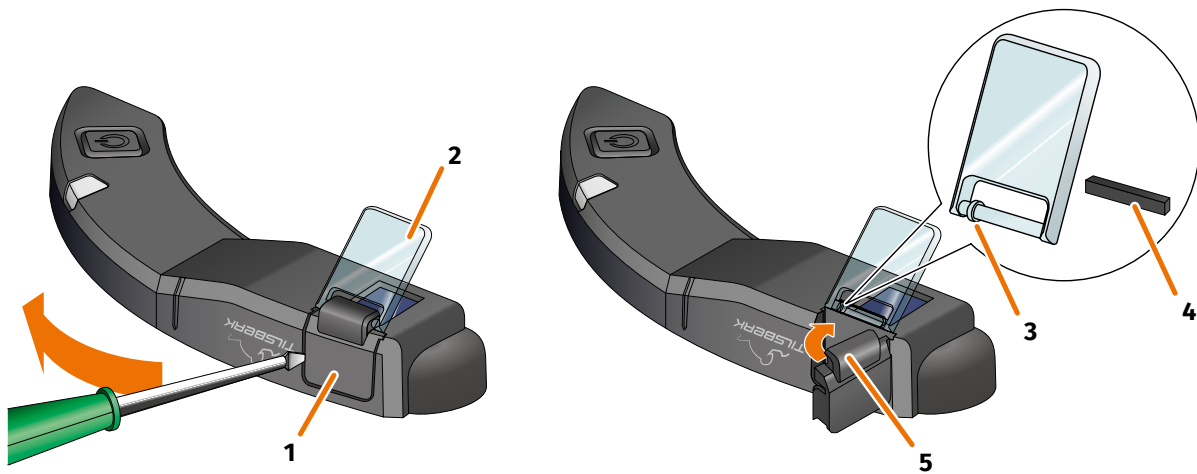

FIGURE 16: Replacing the display
1. Place a screwdriver under the side of the display holder (FIGURE 16/1) and carefully lift up the display holder.
2. Remove the display holder and the damaged display (FIGURE 16/2) from the TILSBERK HUD module.
3. Insert the new display into the TILSBERK HUD module. Make sure that the alignment is correct. The small ring on the display (FIGURE 16/3) must point to the flat side of the TILSBERK HUD module.
4. Insert the clamping wedge (FIGURE 16/4) into the support (FIGURE 16/5) on the display holder.